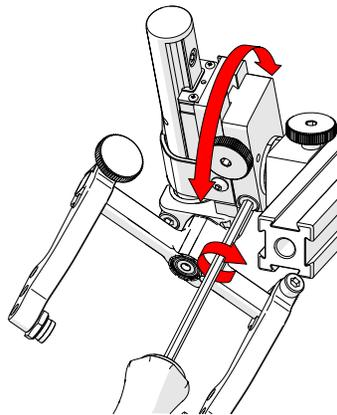

Fig. 88 - Rotate to position
3. Rotate the main body of the probe holder until it is at the desired angle (Fig. 88).
4. Tighten the longitudinal adjustment screw (Fig. 88).